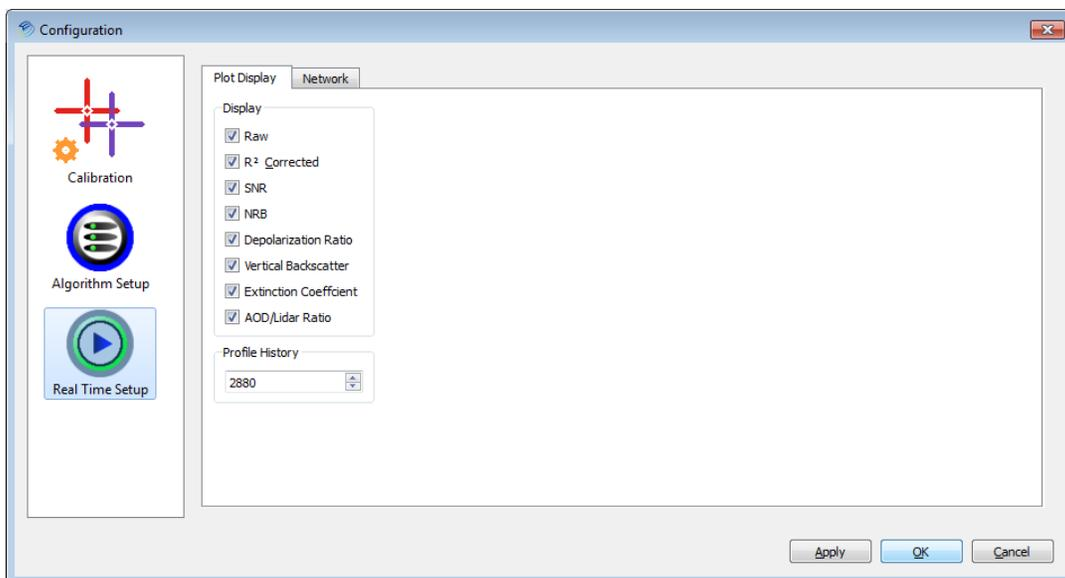

Figure 4: Real Time Hardware Control Setup Plot Display Parameters
4.3.1 In *Real Time Hardware Control* mode, some tabs will not show up by default. To configure the Real Time tabs, select **Configure**→**Real Time Setup** and check all of the desired display options under "Plot Display". You can also select the profile history number to display (Figure 4).